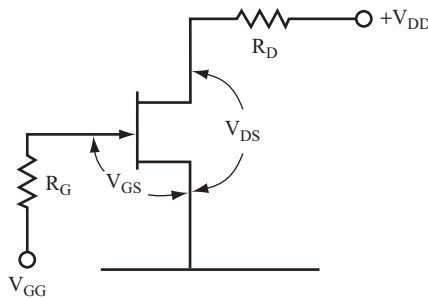

FIGURE 8.30
**31** Chapter 3 discussed the JFET in problems 28–31, and Chapter 4 discussed the JFET in problems 37–41. You may want to review these problems before answering the questions in this problem. Figure 8.30 shows a typical biasing circuit for a JFET.
**33** For the circuit shown in Figure 8.30, you choose the value of the drain to source voltage,  $V_{DS}$ , and then calculate the value of the load resistor,  $R_D$ , by using the following equation: